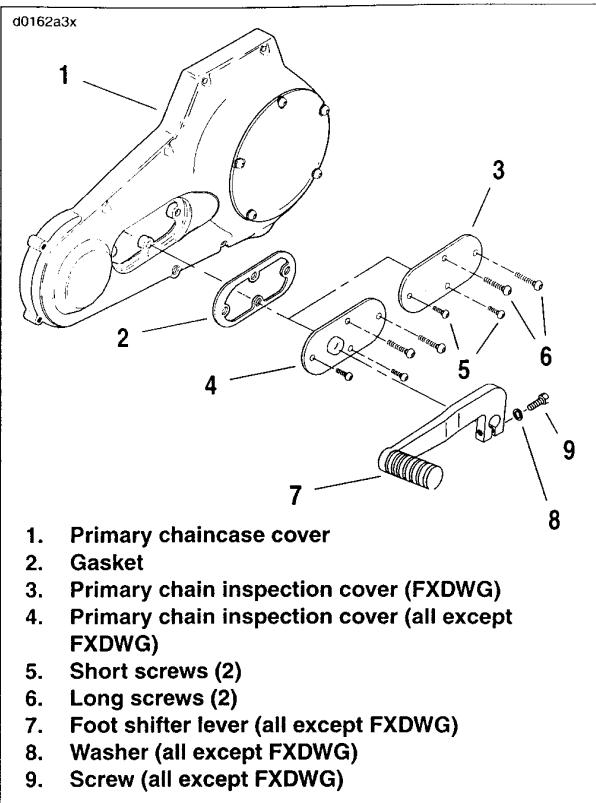

Figure 1-21. Inspection Cover
2. See Figure 1-21. On all models except FXDWG, remove screw (9), washer (8) and foot shifter lever (7).
3. Remove two short screws (5), two long screws (6) and primary chain inspection cover (3 or 4).
7. See Figure 1-21. Install inspection cover (3 or 4) and new gasket (2). Tighten both pairs of cover fasteners (5, 6) to 84-108 in-lbs (9.5-12.2 Nm).
8. On all models except FXDWG, install foot shifter lever (7), washer (8) and screw (9). Tighten screw to 96-120 in-lbs (10.8-13.5 Nm).